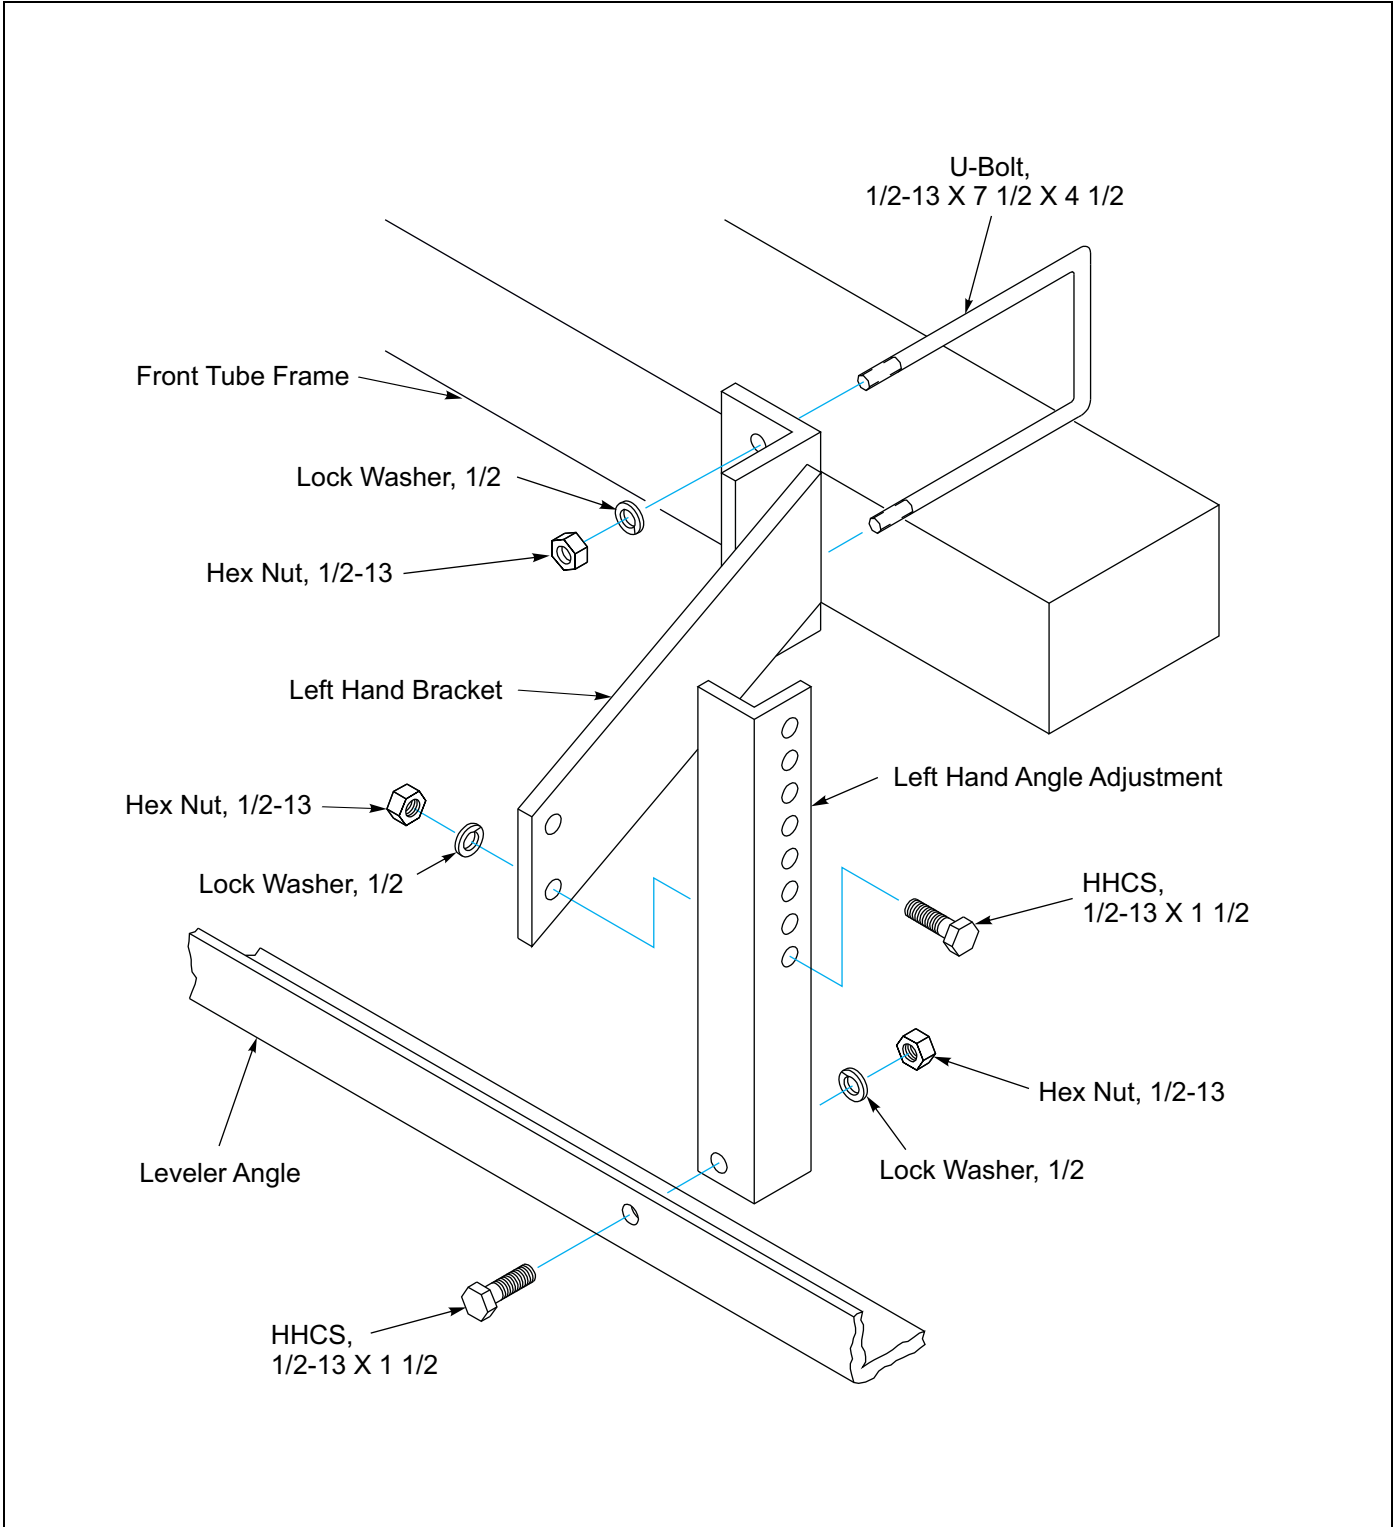

Figure 2-32: Land Leveler
**Note:** There are both Left and Right Brackets and Adjusting Angles. Left hand installation shown, Right hand is similar. The kit for ML 1483 uses three brackets, the others use four. **See Figure 2-32.**